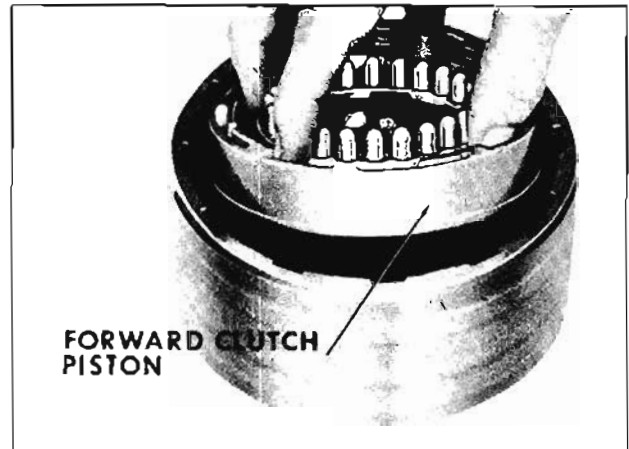

Fig. 6-354 Removing Forward Clutch
9. Lift up on forward clutch piston with a twisting motion and remove. (Fig. 6-354)